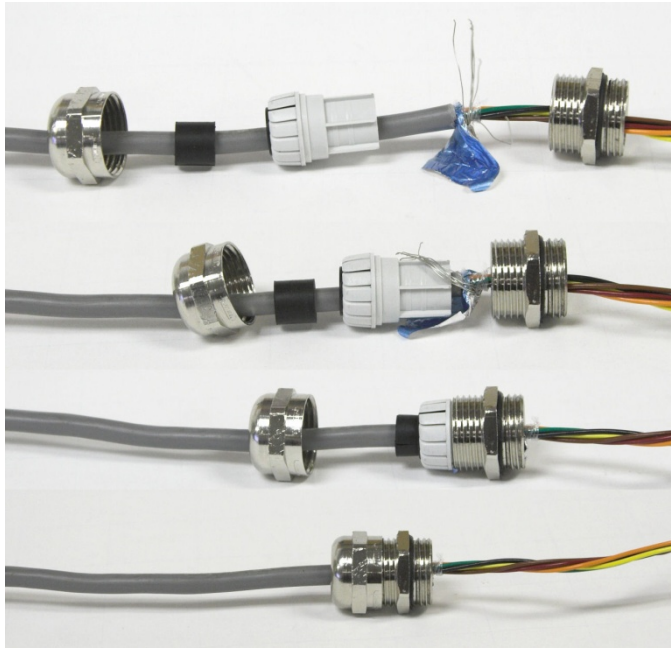
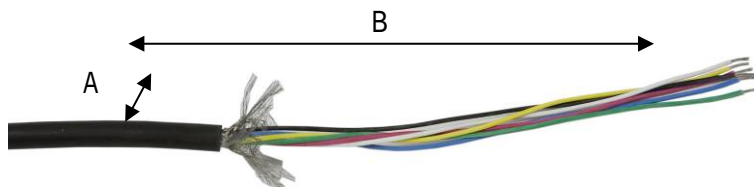
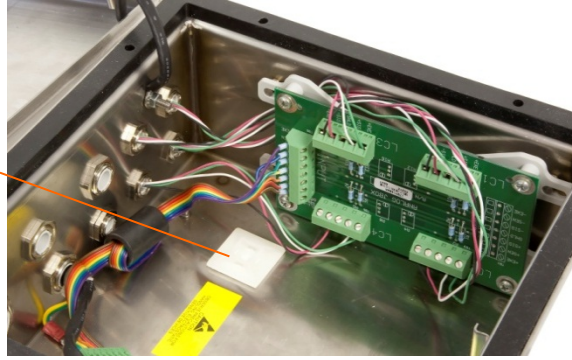

Figure 2-28: Cable Shield Grounding
Figure 2-35: Load Cell Cable Preparation
Figure 2-40: Load Cell Wires Installed and Routed, Summing Board Mounted
- Cable shielding should be grounded to the enclosure by spreading the shield wires as shown at the top of Figure 2-28, then folding them back over the plastic component of the cable gland before pressing it into the threaded body.
To provide better access to the summing board for wiring, cut the nylon wire tie that secures the ferrite core of the internal harness to the back of the enclosure – the wire tie anchor is indicated in Figure 2-40. Unplug the harness from the IND131 terminal.
Prepare the ends of each of the load cell cables as shown in Figure 2-35 and Table 2-4. Make sure the shield is connected to the gland as depicted in Figure 2-28.
Prepare the ends of each of the load cell cables as shown in Figure 2-40 and Table 2-6. Make sure the shield is connected to the gland as depicted in Figure 2-28.
Insert the load cell cables into the correct gland as identified in Figure 2-40
The load cell cable lengths suggested in Table 2-4 will provide enough extra wire to allow the summing board to be reattached to the side of the enclosure. Route the load cell cable for load cells 1, 2, and 3 behind the summing board to better secure the wires as shown in Figure 2-40.
Position the summing board bracket so that the slotted holes line up with the studs on the side of the enclosure. Push the bracket onto the studs then slide the assembly away from the glands so the bracket “snaps” into place. Refer to Figure 2-40. On the original version, make sure that there are no wires pinched between the bracket and the enclosure when attaching the assembly. On the updated version, route all wires in front of the summing board.